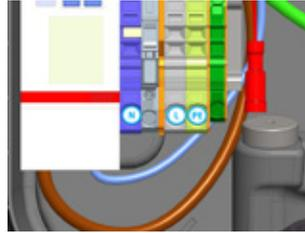
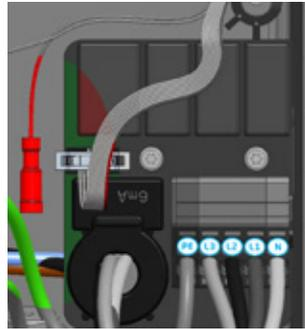

Figure 8a: Connection clamps power and Control Pilot (CP) connector for the charging cable (red) to S-line
Figure 8b: Connection clamps power and Control Pilot (CP) connector for the charging cable (red) to Pro-line
10. Attach the Control Pilot (CP) connector to the red connection cable. This is right next to the connection terminal for the power cables. See figure 8a (S-line) and figure 8b (Pro-line).